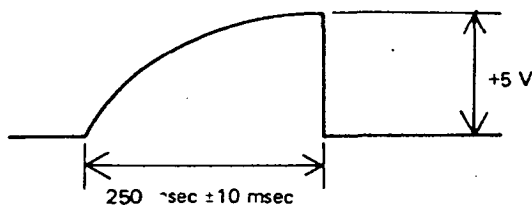

Fig. 5
4. Play any single key and adjust VR12 to obtain an attack time of 250msec ±10msec. See fig. 5.